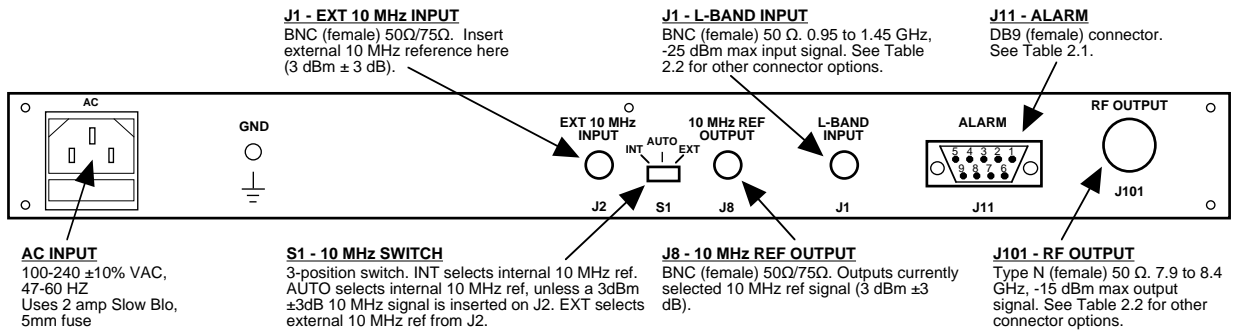

FIGURE 2.1 Rear Panel I/O's
Figure 2.1 shows the input and output connectors on the rear panel.
1. Connect a -25 dBm to -40 dBm signal to L-BAND INPUT, J1 (Figure 2.1).
5. Select either INT (for internal 10 MHz ref), AUTO (for internal 10 MHz ref UNLESS an external 10 MHz, 3 dBm signal is connected to J2), or EXT (for external 10 MHz, 3 dBm ref that is inserted at J2) on rear panel switch S1 (Figure 2.1).
7. Check that a 10 MHz, 3 dBm \pm 3 dB signal is present at the 10 MHz REF OUTPUT (J8) (Figure 2.1).